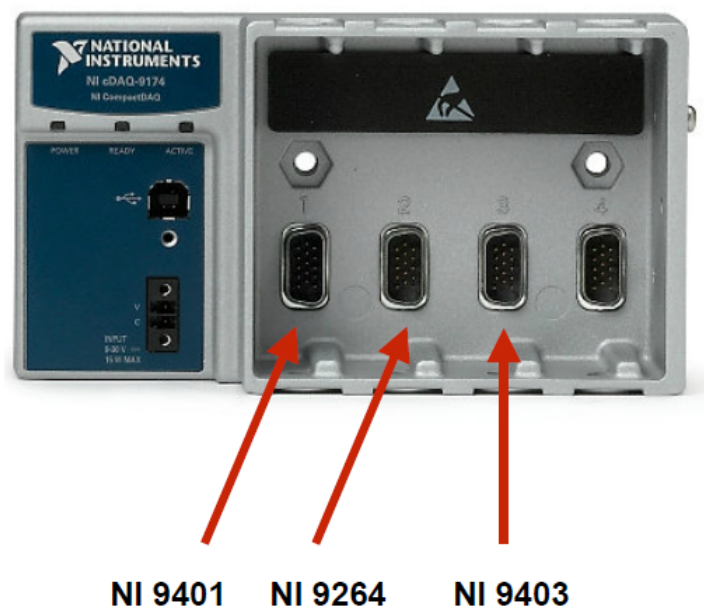

Figure 1: Positions for the single DAQ modules in the *NI cDAQ-9174* chassis.
- [2] Referring to the manuals from [1], insert the DAQ modules into the *NI cDAQ-9174* chassis in the order indicated in Fig. 1.